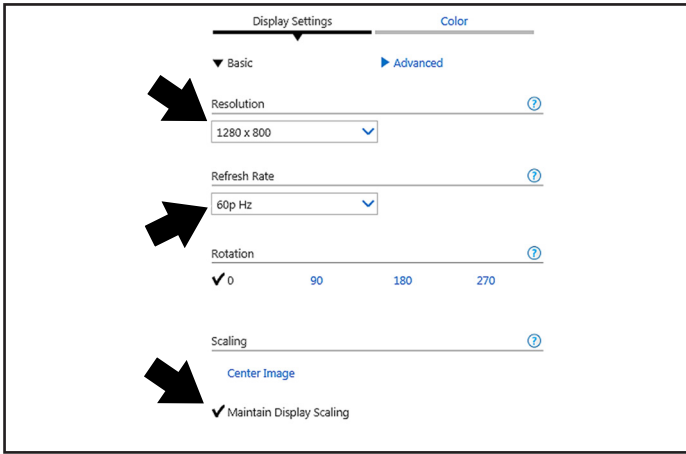

Figure 11
8. Select 1280 x 800 from the Resolution menu (Figure 11).
9. Select 60p Hz from the Refresh Rate menu (Figure 11).
10. Select Maintain Display Scaling (Figure 11).